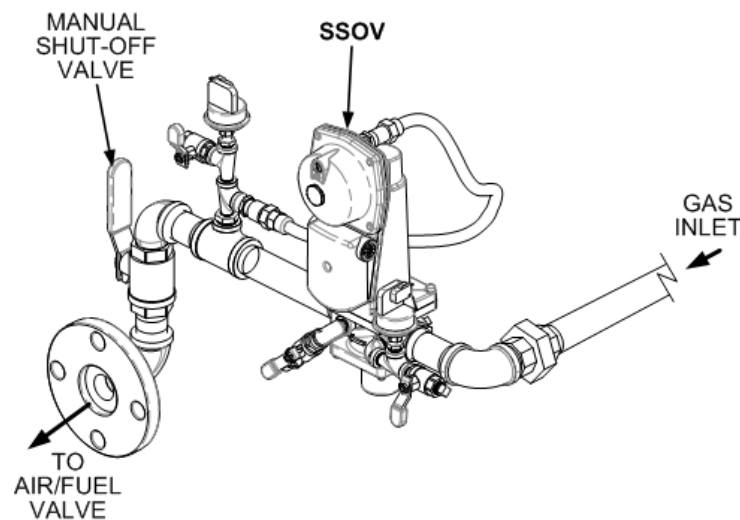

Figure 3-3. SSOV Location
2. The unit checks to ensure that the Proof of Closure (POC) switch in the downstream Safety Shut-Off Valve (SSOV) is closed. See Figure 3-3 for SSOV location.